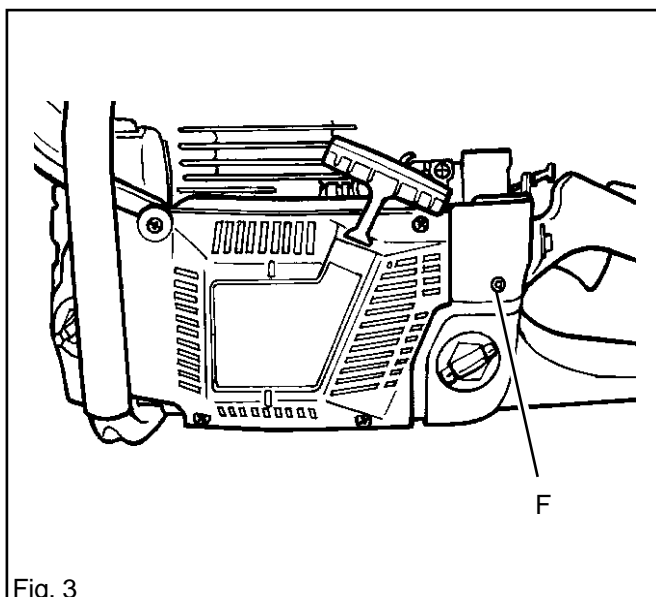

Fig. 3
7. Remove the bolt (F) from the flywheel side. See fig. 3.